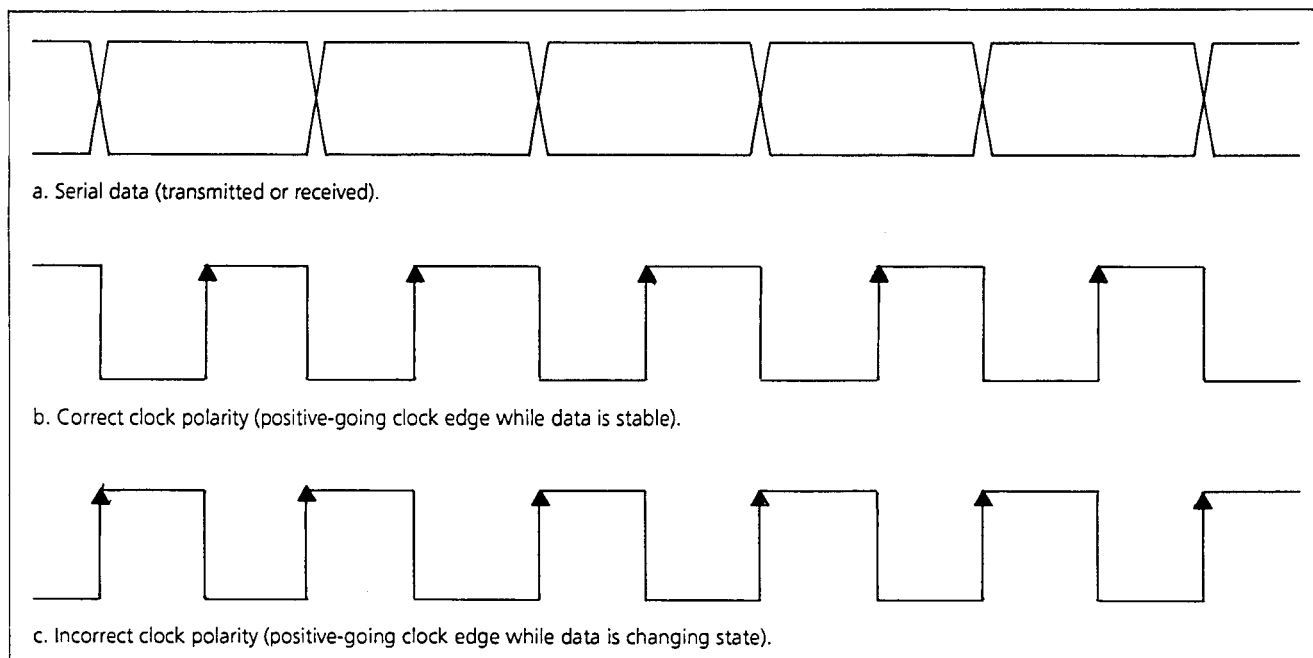

Figure 3-9. Received and transmitted data timing diagram
c. Receive Clock Polarity Selection. Two-position jumper J6 is set according to the desired receive clock polarity. Normally, J6 is set to position A for normal polarity. If framing is not achieved after both the local and remote terminals are powered, it may be caused by a polarity reversal in the receive data clock. The incoming data should not be changing state on the positive-going edge of the clock signal (Fig. 3-9). If it is, J6 must be moved to position B.
d. Transmit Clock Polarity Selection. Two-position jumper J7 is set according to the desired transmit clock polarity. Normally, J7 is set to position A for normal polarity. If framing is not achieved after both the local and remote terminals are powered, it may be caused by a polarity reversal in the transmit data clock. The incoming data should not be changing state on the positive-going edge of the clock signal (Fig. 3-9). If it is, J7 must be moved to position B.